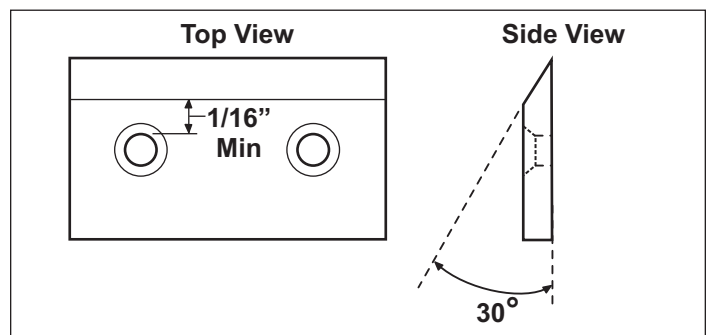

FIGURE 22 - Chipper Knife Minimum Cutting Edge
The chipping knives may be sharpened at a 30 degree angle until the distance between the edge of the blade bevel and the mounting hole is less than 1/16" (1.6mm). **SEE FIGURE 22**
7. Inspect, rotate, sharpen, or replace the chipper knife. **SEE FIGURE 22**